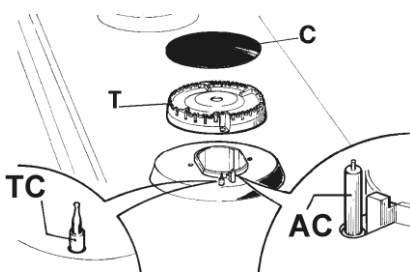

Fig. 10
- Periodically wash the hot plate, the enameled steel pan support, the enameled burner caps “A”, “B” and “C” and the burner heads “T” (see fig. 10 and 11) with lukewarm soapy water. Also clean plugs “AC” and flame detection “TC” (see fig. 10). Clean them gently with a small nylon brush as shown (see fig. 12) and allow to dry fully.